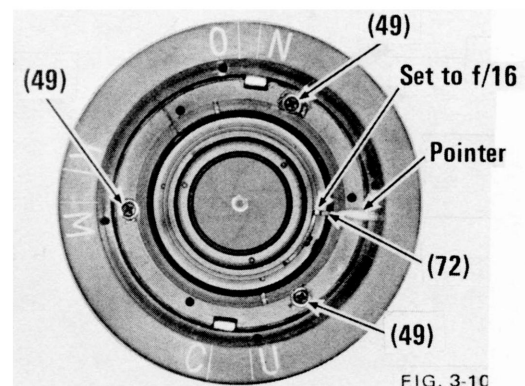

FIG. 3-10
- f) Rotate diaphragm housing assembly to align diaphragm actuator arm (72), in the f/16 position, with the pointer. Fig. 3-10.
- g) Tighten screws (49) very slightly to hold the diaphragm housing assembly as set.
- l) When the position of the diaphragm housing assembly is correctly adjusted, remove the mount, rotate the aperture ring to expose screws (49), seal and tighten.